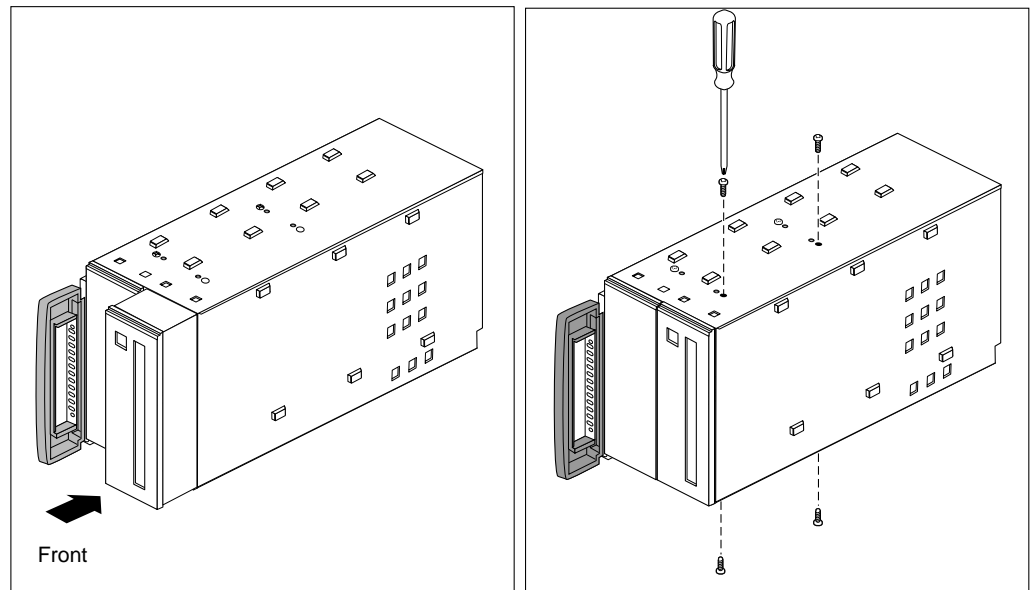

Figure 2-12 Inserting a 5.25-Inch Drive in the Peripheral Carrier
4. Slide the drive into the peripheral carrier and attach it with four screws through the side of the carrier, as shown in Figure 2-12.